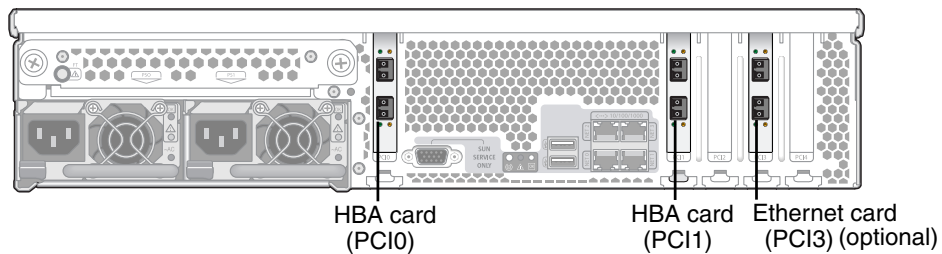

FIGURE 1-3 Sun StorageTek 5320 NAS Appliance Back Panel With Two HBA Cards
In the Sun StorageTek 5320 NAS Cluster Appliance configuration, two high-availability (HA) servers are sold as a matched pair and are identified as server “-H1” and server “-H2” in their software serial numbers. Each server contains two dual port FC HBA cards and can contain other optional cards (see “Server Options for All Configurations” on page 7). FIGURE 1-3 shows the back of the server with two HBA cards.